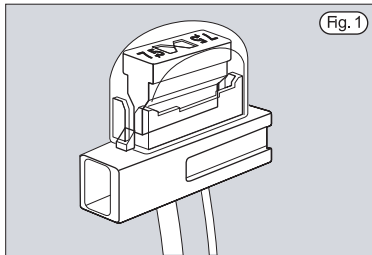

Fig. 1
- Remove brake fluid reservoir cover screws 1 (fig. 1) using the multifunction tool.
- Remove cover 2 (fig. 1) and gasket 3 (fig. 1).
Check the brake visually (fig. 1).
- Adjust the play by acting on register 1 (fig.1) located under the rear end of the transmission.
- Put the odometer transmission (2) on the right side of the wheel by inserting the transmission tang in the seat on the hub wheel (see figure 1).